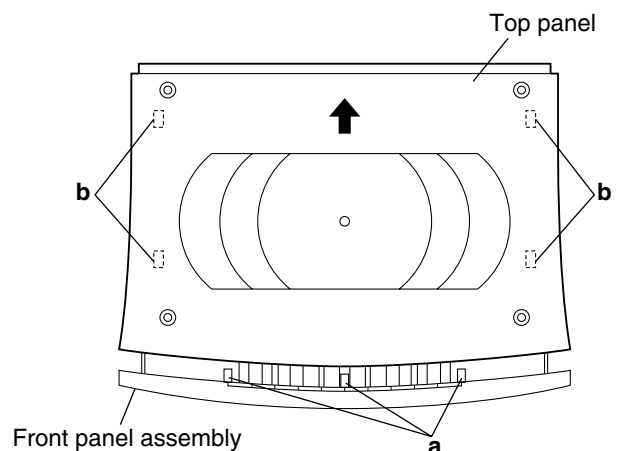

Fig.4
■ Removing the top panel (See Fig. 4.)